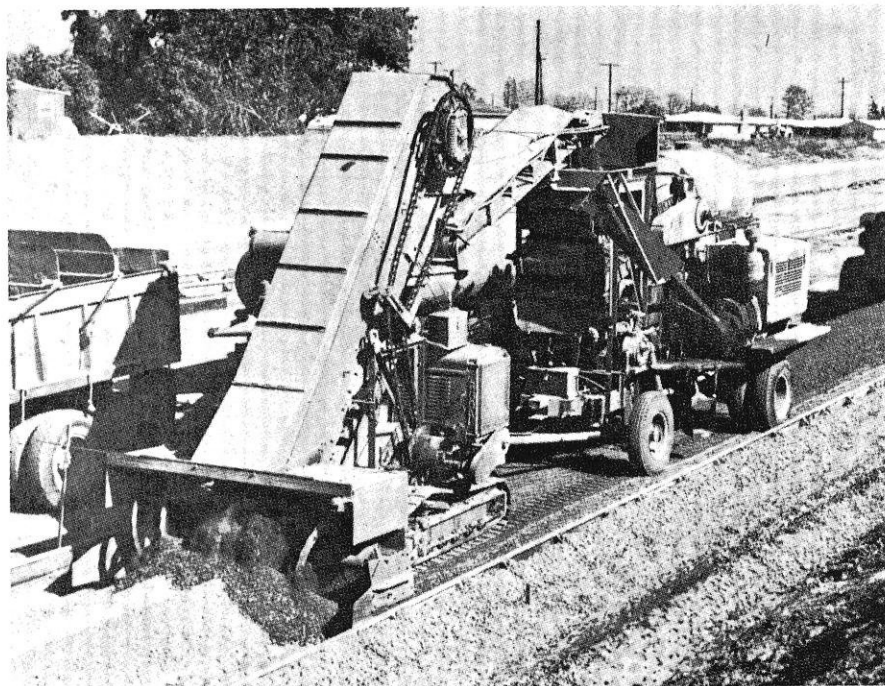

Fig. 6—Windrow type traveling mixer (from PCA)
1. **Windrow Type** (Fig. 6)—With this type of mixer, the soil is first bladed into uniform windrows with a blade grader. The cement is then deposited uniformly over the top of the soil windrows by a spreader (see Fig. 7) or by hand. The mixing machine, which travels along the windrows, mixes the cement and soil thoroughly and